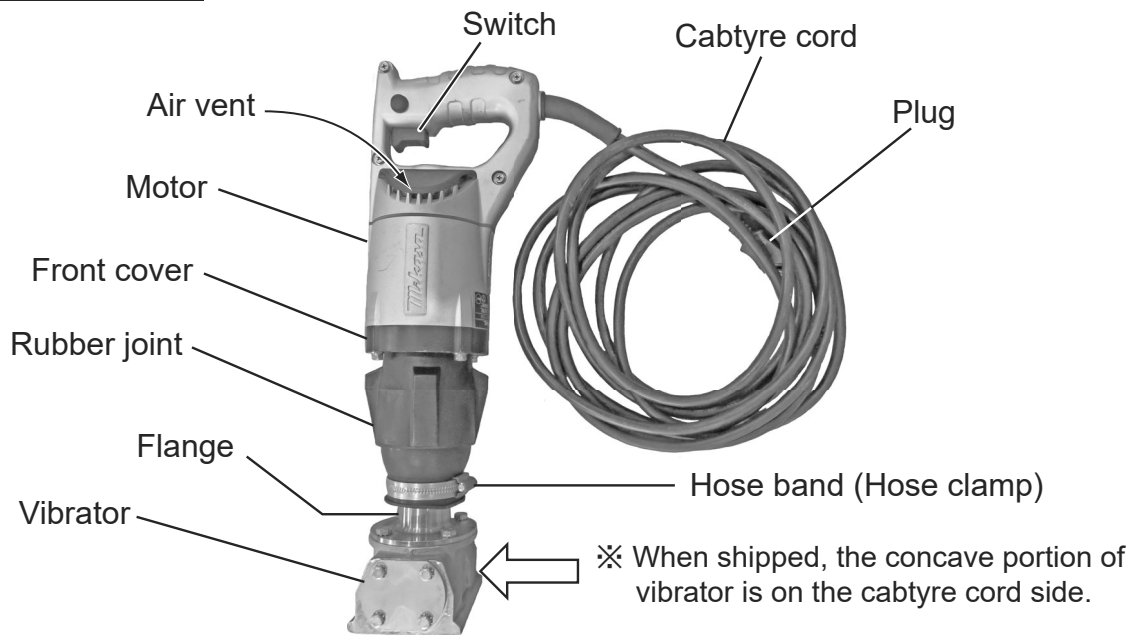

Figure 1: Name of each part
- If the air vent is clogged, overheating occurs, which might result in burnout. (Refer to Figure 1)